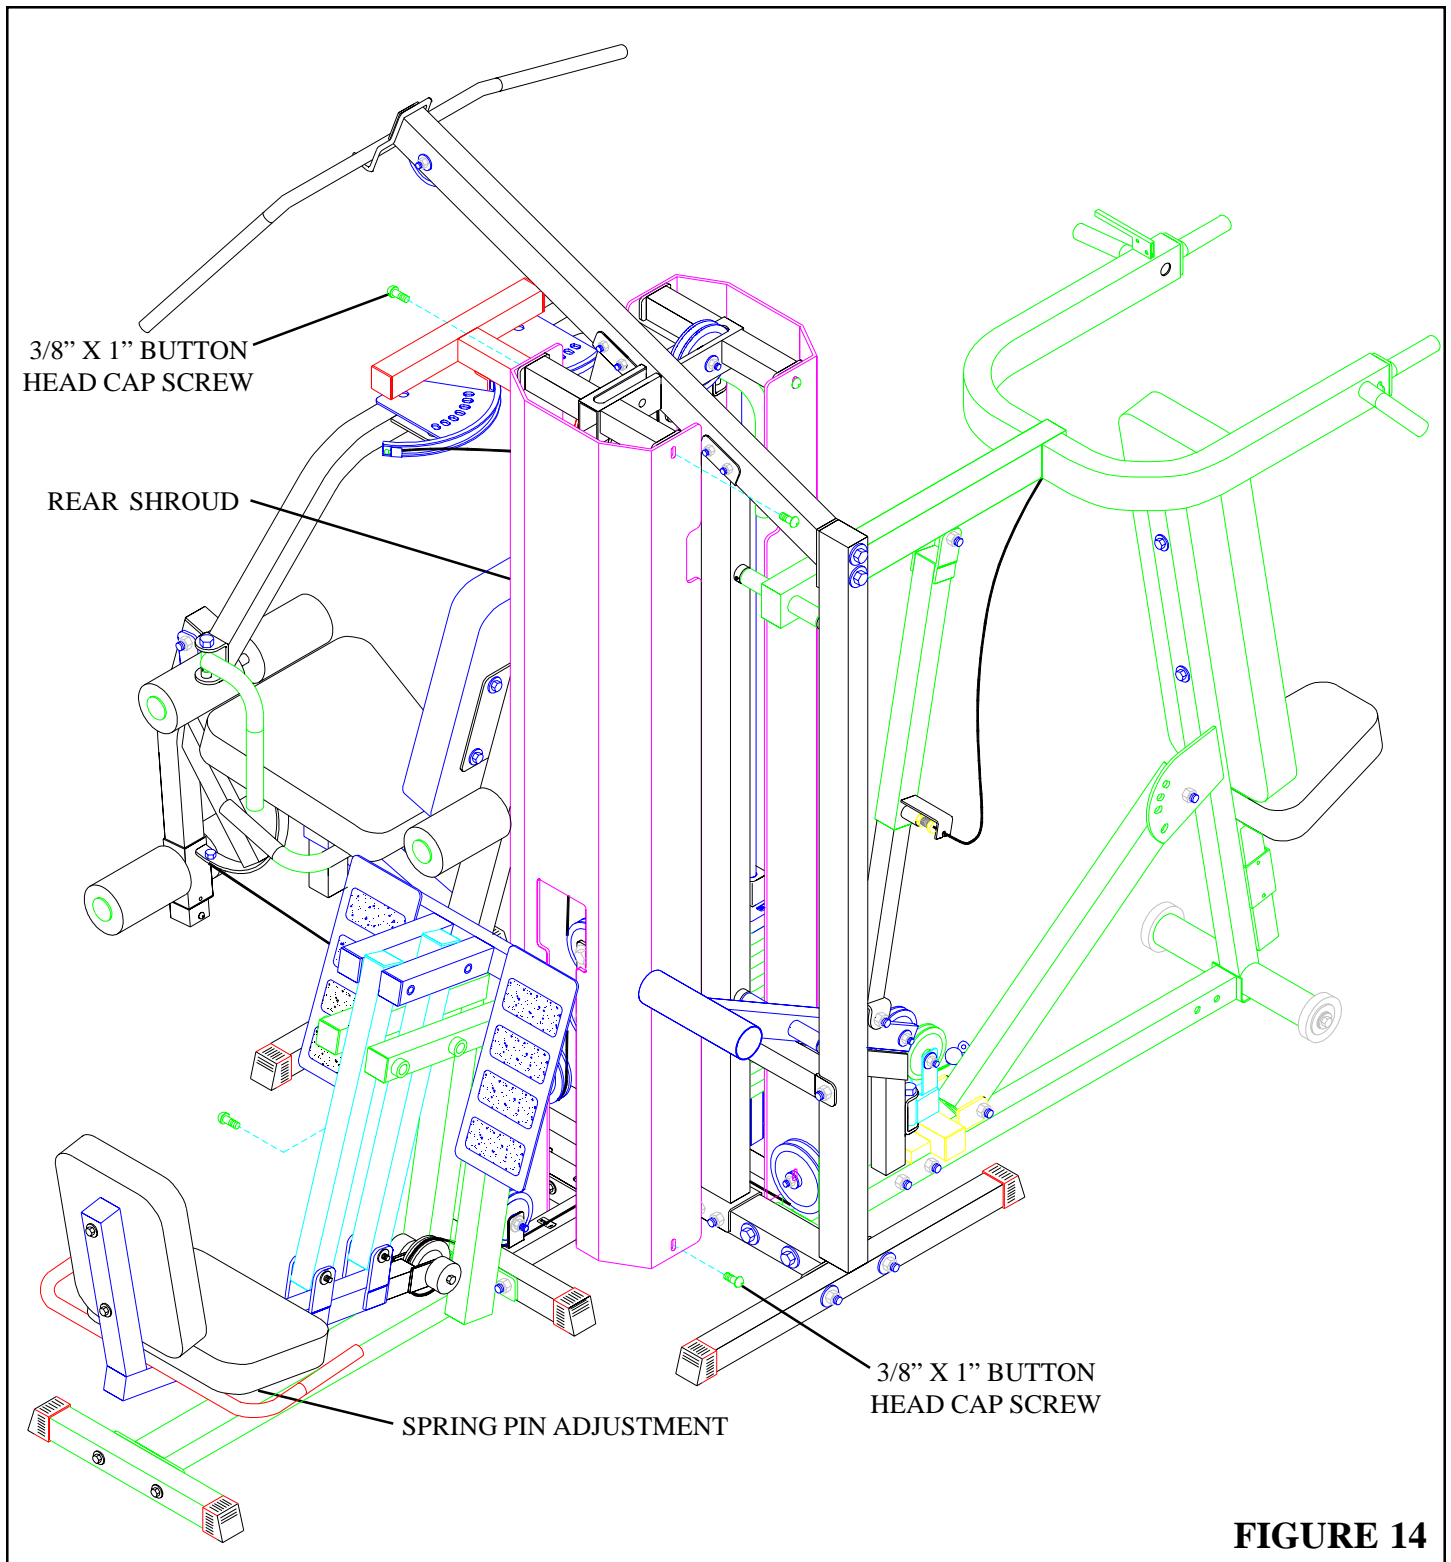

FIGURE 14
- **SECURELY** attach the four previously removed 3/8 X 1" BUTTON HEAD CAPSCREWS to the rear SHROUD. See FIGURE 14.